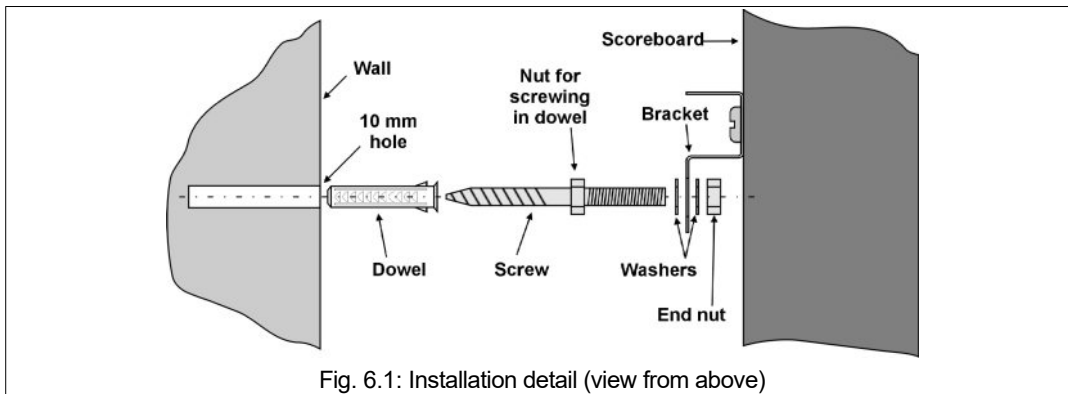

Fig. 6.1: Installation detail (view from above)
2. Insert a dowel in each of the holes and then screw in the screws by working the nut with a 13 mm wrench (see Fig. 6.1); insert the washers.